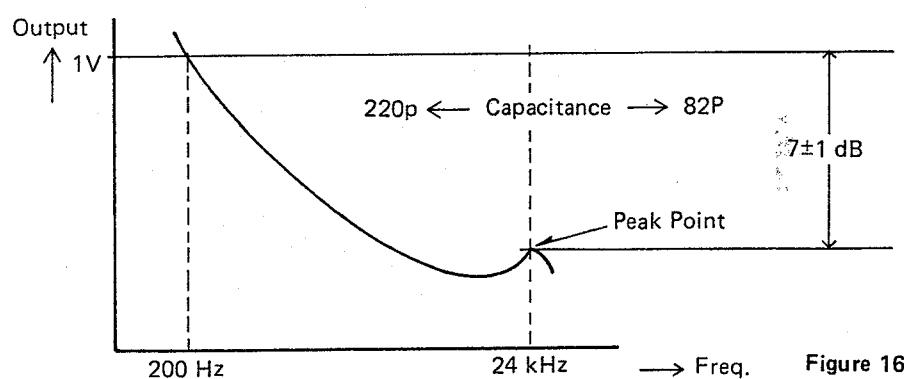

Figure 16
(2) Set the OSC frequency to 200 Hz and adjust for 1V (0 dBV) at T.P.1 (1') by OSC output controller.
(3) Increase the OSC frequency seeing the Volt meter and confirm the value of the volt meter as shown in Figure 16.